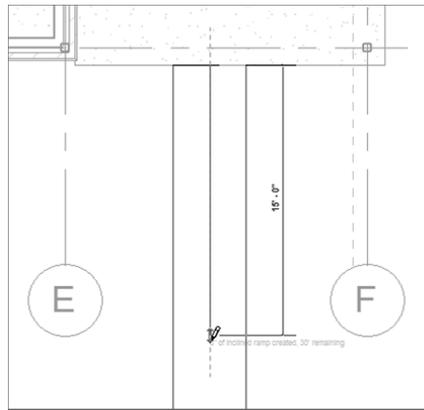

FIGURE 10.82: Pick the first point on the landing, and then move your cursor down 15'-0" (4500 mm).
17. In the model, click the first point for the ramp, similar to the point shown in Figure 10.82. (You have to place the point near the midpoint. Revit doesn't allow you to snap while in Sketch Mode.)
18. Move your cursor down the view (south) 15'-0" (4500 mm), as shown in Figure 10.82. (You'll see the temporary dimension.)